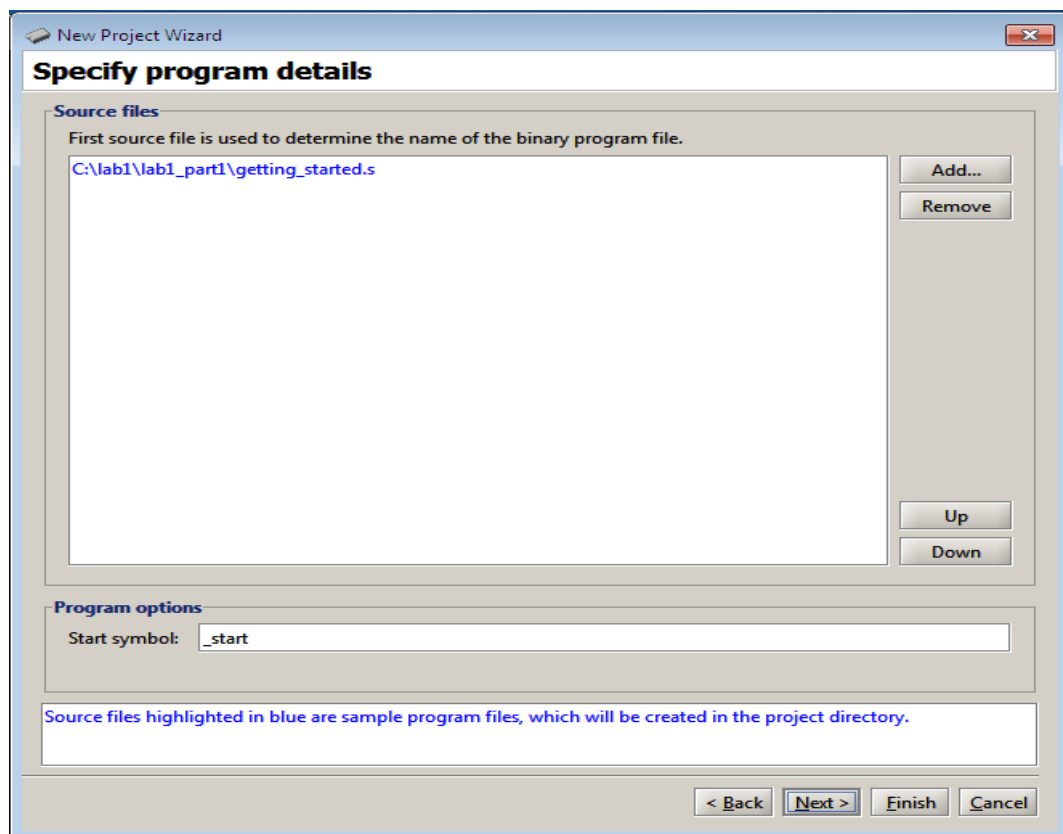
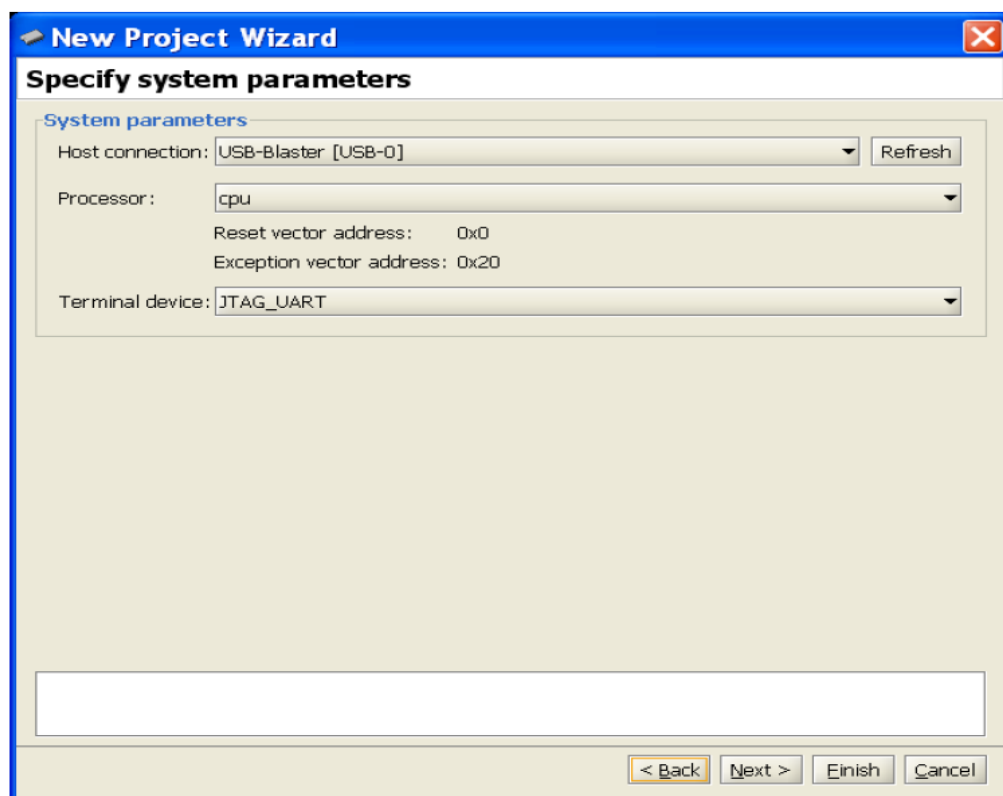
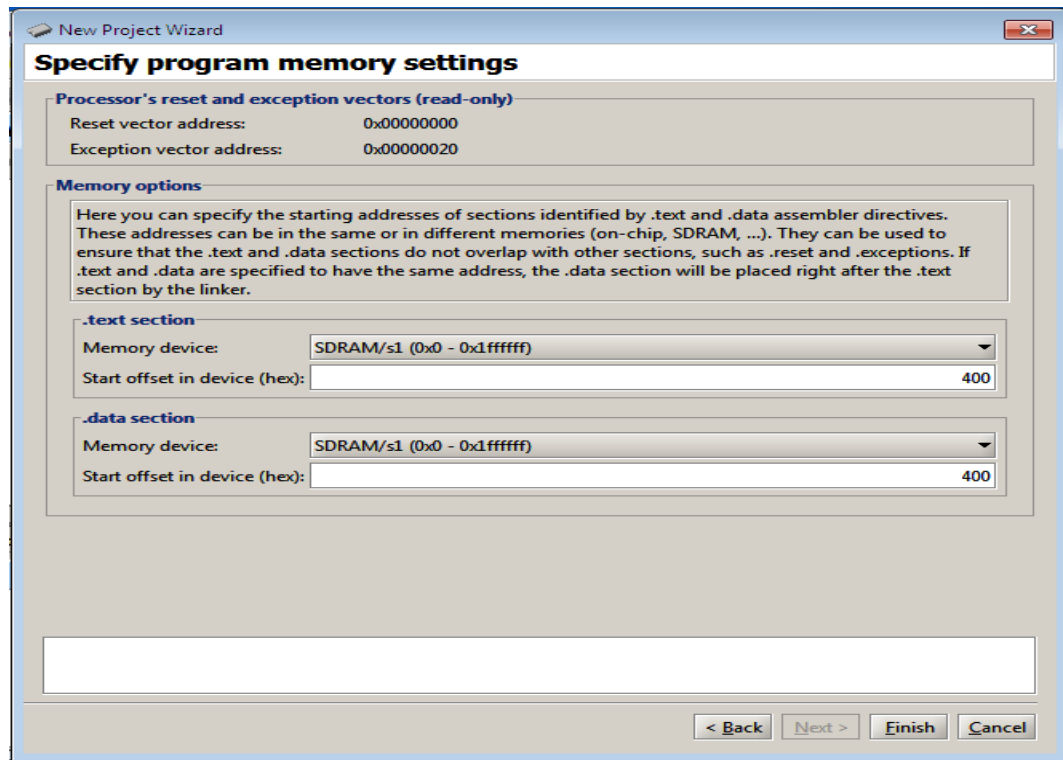

Figure 6: Source files used by the application program.
Figure 7: Specify the system parameters.
Figure 8: Specify the program memory settings..
5. The window in Figure 6 is used to specify the source file(s) that contain the application program(s). Since we have selected the Getting Started program, the window indicates the files that are used by this program. This window also allows the user to specify the starting point in the selected application program. The default symbol is start, which is used in the selected sample program. Click Next.
6. The window in Figure 7 indicates some system parameters. Note that the USB-Blaster cable is selected to provide the connection between the DE0-Nano board and the host computer. Click Next.
7. The window in Figure 8 displays the preselected components of the DE0-Nano Basic Computer. Observe that the SDRAM is selected as the memory device to be used. The start offset is 0x400 (hex 400), which means that the application program will be loaded in the memory locations that begin at address 400. Since this choice was made by the designer of the sample program, you cannot change the selection in Figure 8. Click Finish to complete the specification of the new project.
3. Upon reaching the window in Figure 6, you have to specify your program. Click Add and in the pop-up box that appears indicate the desired file name, `lab1_part2.s`, and its location. This should lead to the image in Figure 13. Click Next to get the window in Figure 7. Again click Next to get to the window in Figure 8. Make sure that the SDRAM is selected as the memory device. Note that the Start offset in device will be 0, because the program in Figure 11 does not indicate that it should loaded at a location that is different from the default location 0. Click Finish.